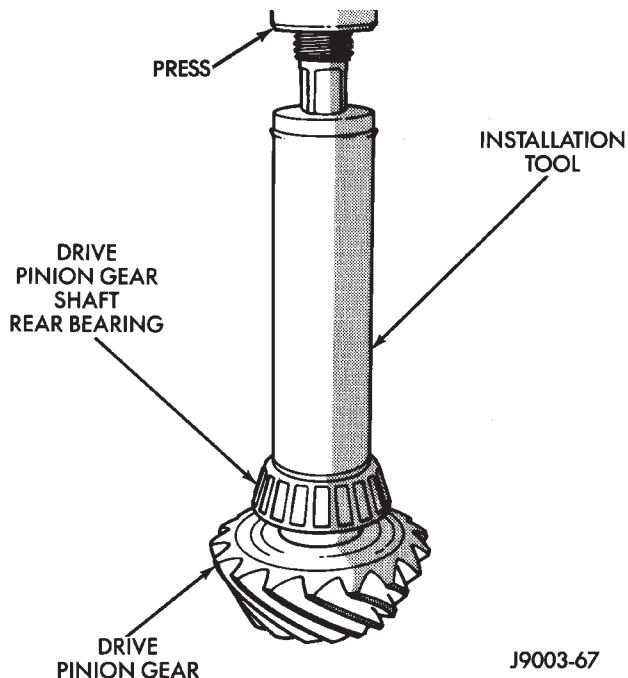

Fig. 49 Shaft Rear Bearing Installation
(7) Place the proper thickness depth shim on the pinion gear.
(8) Install the rear bearing and slinger, if equipped, on the pinion gear with Installer W-262 (Fig. 49).